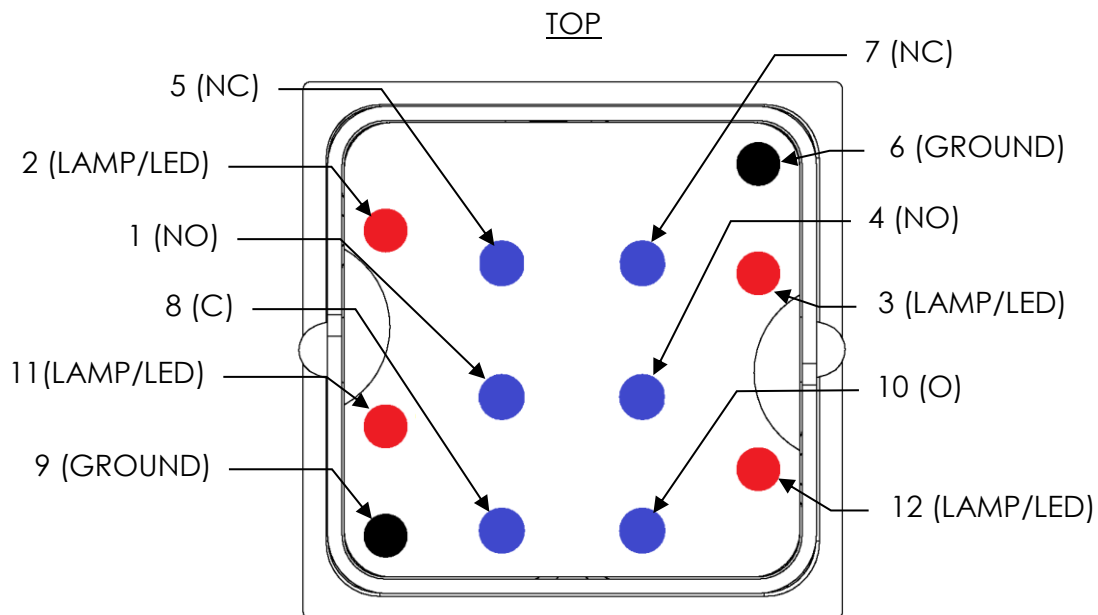

Figure 34: Termination Identification
Figure 34: Termination Identification identifies the terminal numbers (and switch functions) with their relative position on the header.
- Refer to Figure 34: Termination Identification for terminal designations.